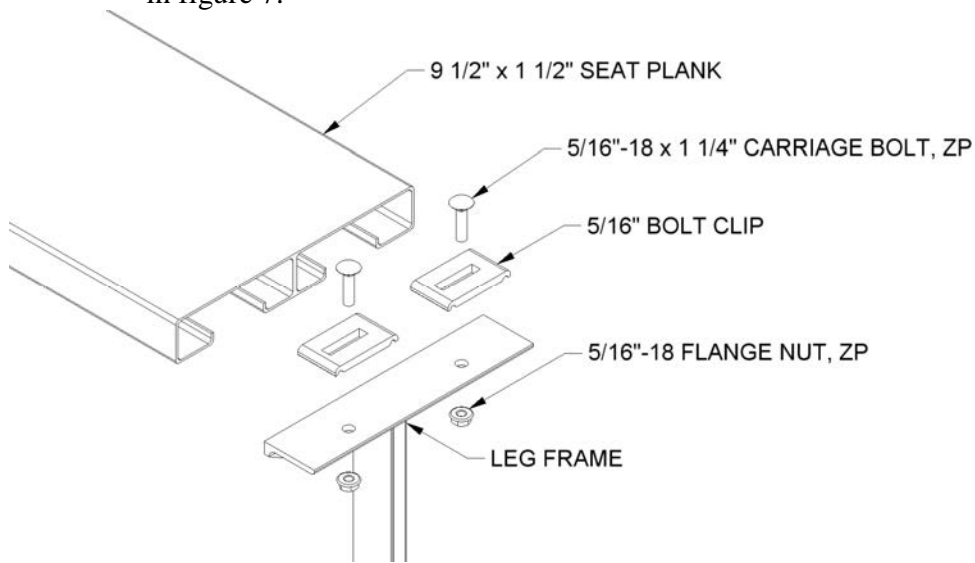
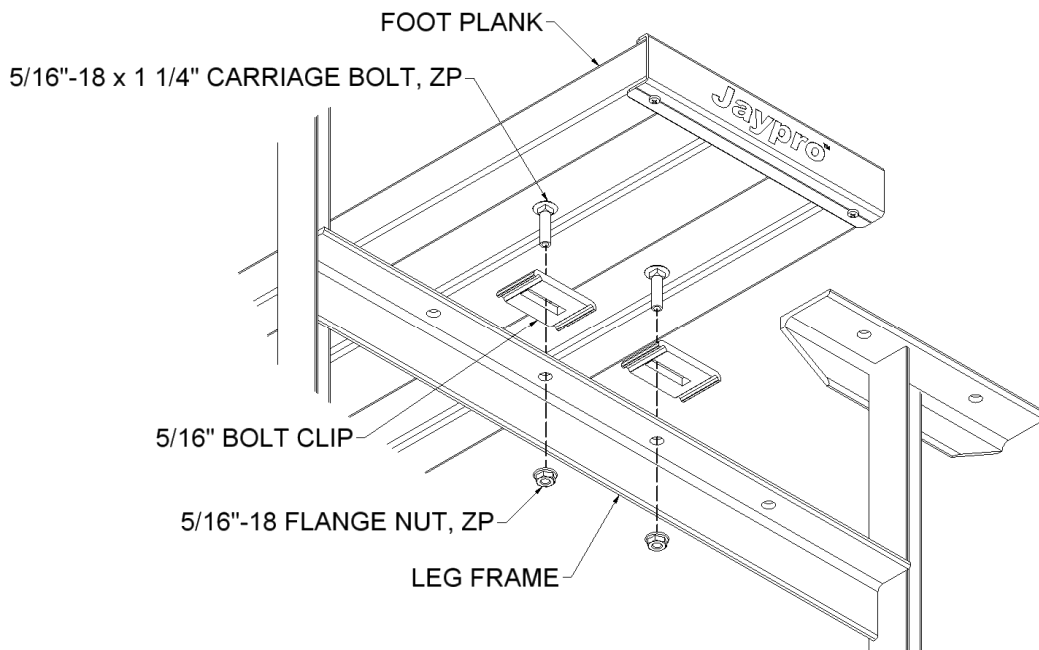
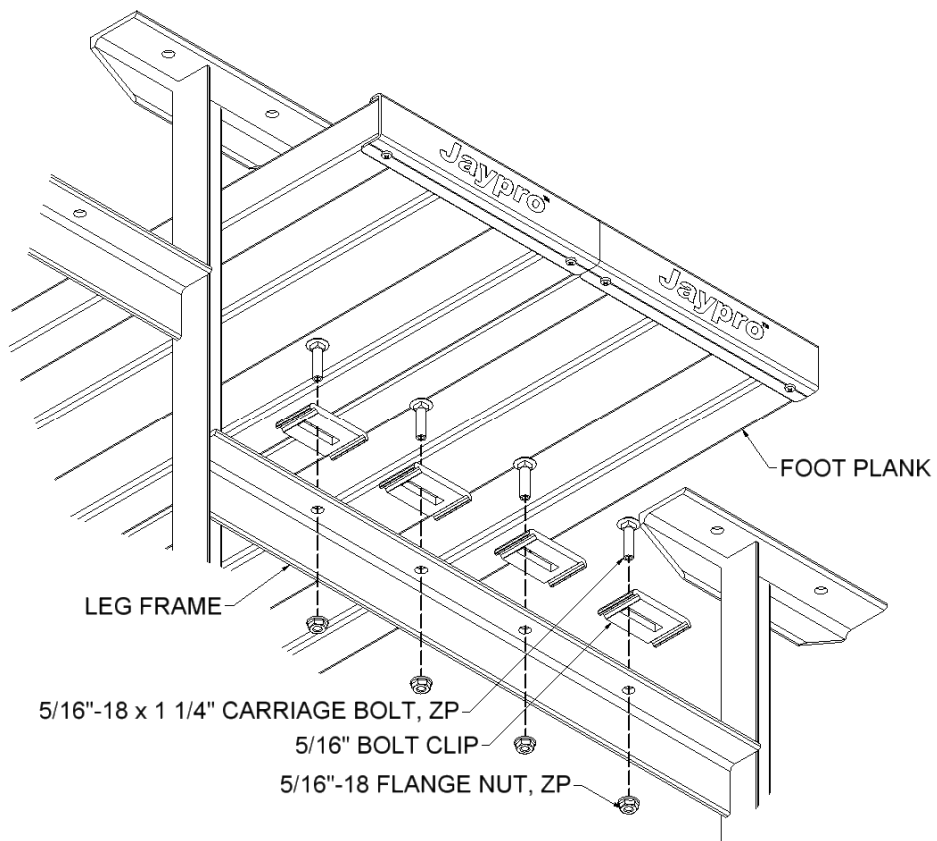

FIGURE: 5
FIGURE: 6
FIGURE: 7
5. Making sure the undercarriage frame is square and plumb, install the seat and foot planks. The seat and foot planks are best installed starting from the front seat and working towards the back. Use the hardware and bolt clip as shown in figure 5. Position planks so they are centered on the frame, with equal amount of overhang on each end. Note that standard bleachers (BLCH-4AL & BLCH-4TRG) have a single foot plank, which is centered on the support frame, see figure 6. Preferred bleachers (BLDP-4AL & BLDP-4TRG) have double foot planks and are installed as shown in figure 7.